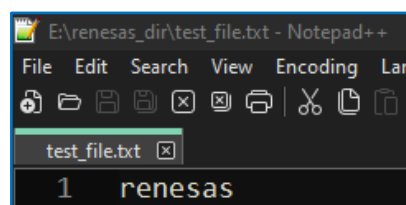

Figure 29 Writing to a file
- Writing to a file is illustrated in *Figure 29 Writing to a file*.